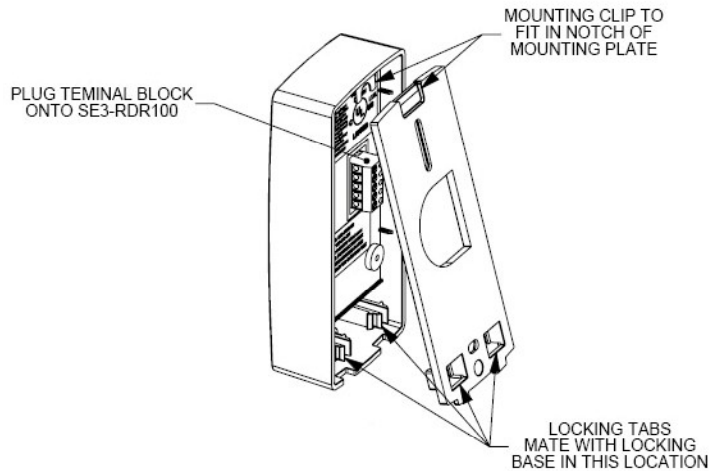

Figure 1-4 Mounting Plate Installation - Surface Mount
- Figure 1-4 Mounting Plate Installation - Surface Mount5